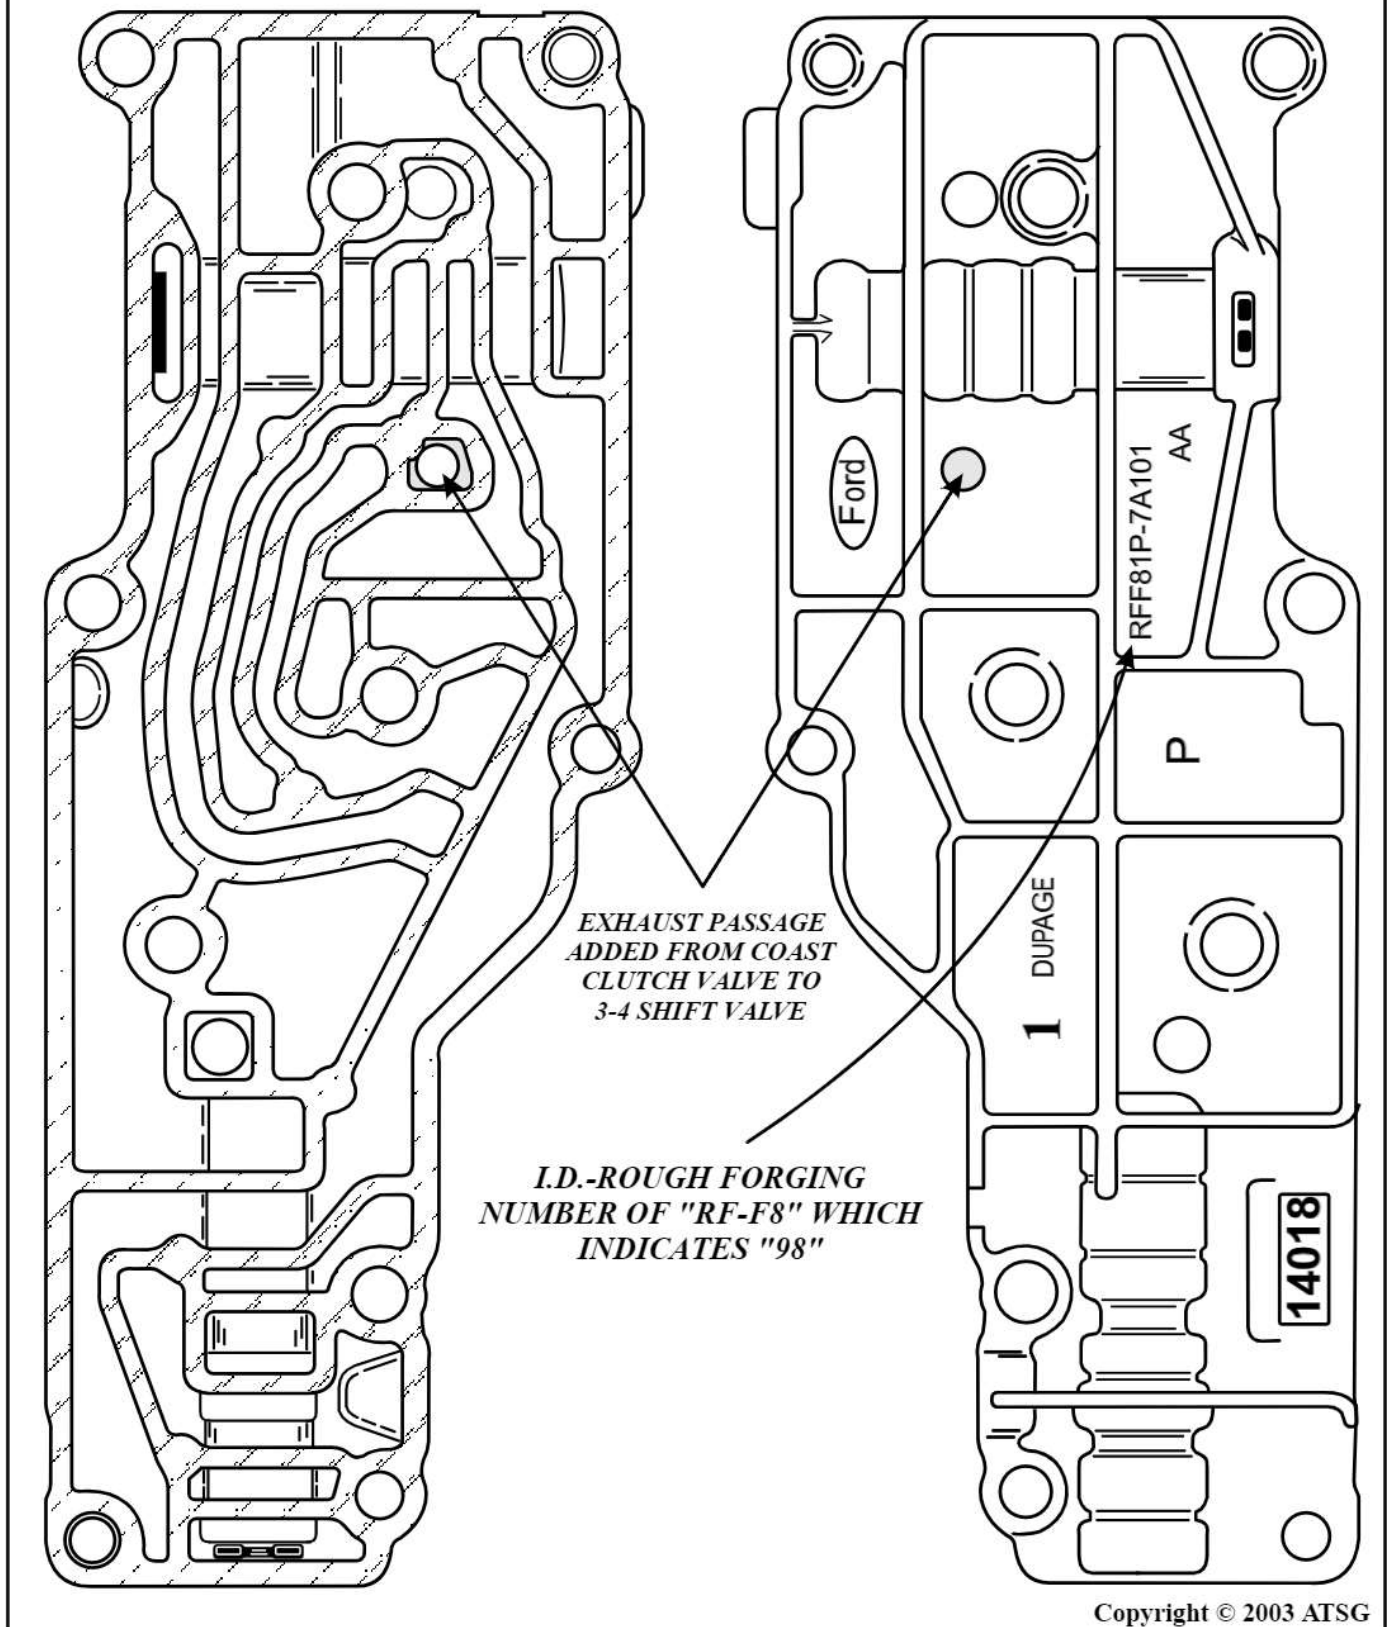

Figure 33
- (4) **LOWER VALVE BODY:** The Lower Valve Body has a passage added, as shown in Figure 33, to connect to the "*new*" exhaust passage in the Main Valve Body. Refer to Figures 32 and 33, for identification of "NON-PTO" and "PTO" Lower Valvebody's.